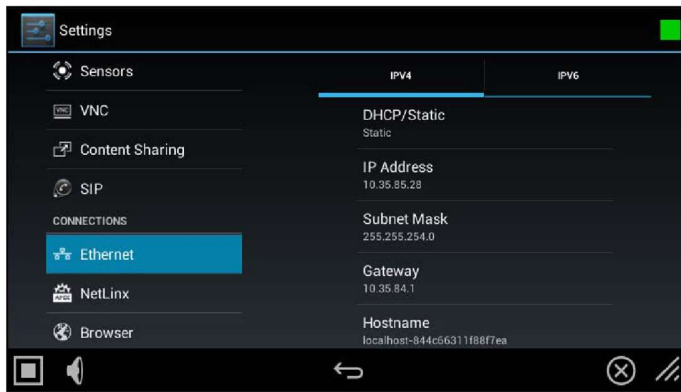

FIG. 55 Ethernet page (IPv4 tab) - indicating Static IP connection information
5. When complete, press **OK** to save changes and return to the Ethernet page - IPV4 tab (FIG. 55):